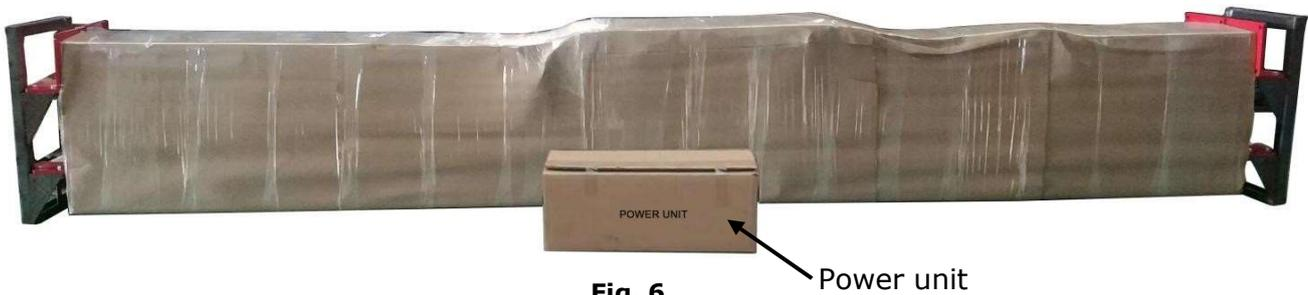

Fig. 6
2.Received lift with hydraulic power unit (See Fig. 6).